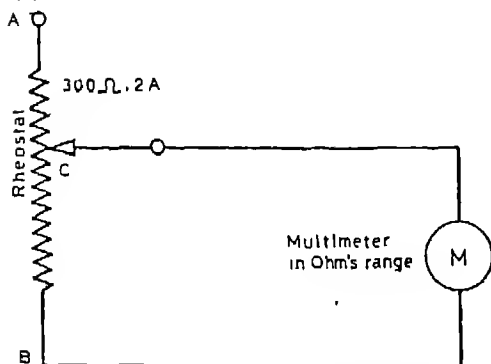

Fig 3.3 Rheostat connected as a variable resistance
- (i) connect the circuit as shown in Fig 3.3.
- (ii) Bring the variable point (C), at B and measure the resistance.
- (iii) Slide the variable point (C) towards A and measure the resistance for different positions.